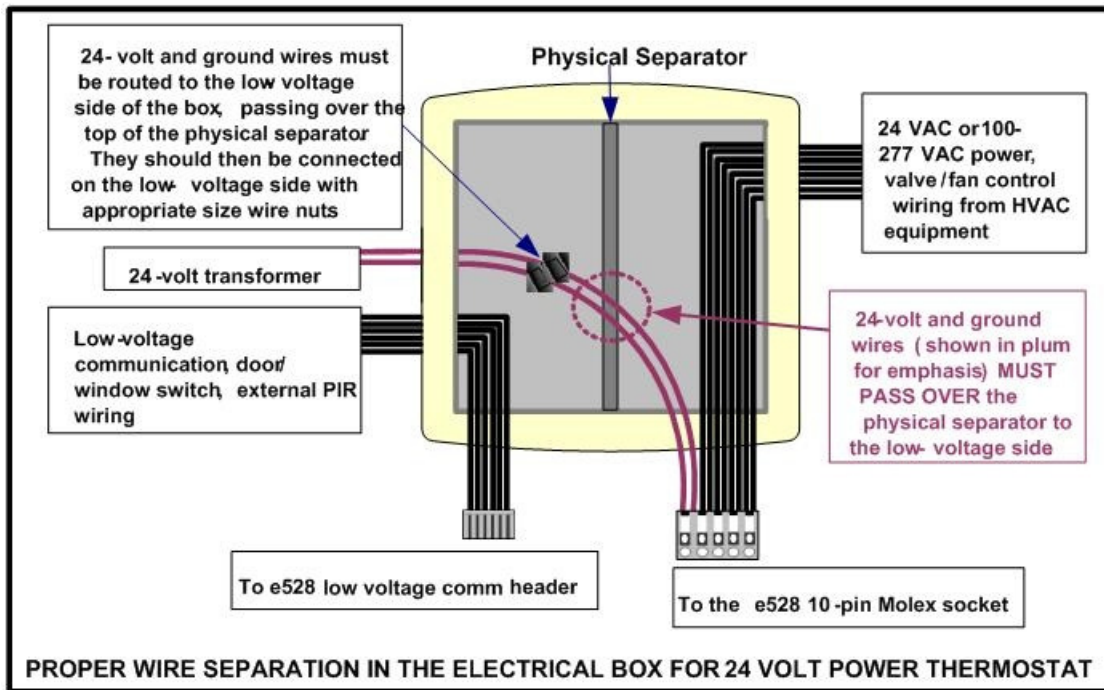

Figure 8 Electrical Box Connections 24VAC
- Using the adapter (P/N 203-013) connect the harness from the wall box (P/N 62-1462) previously connected to the thermostat being replaced to H1 of the adapter (see Figure 8).
Figure 8 e528.4G to 2G Standalone application
Figure 8 shows the pinout for the 10-position Molex male connector supplied with all relay output models of the thermostat. The end view of the male connector from the wire insertion side with the pin numbers is indicated. This is the same as looking at the female connector point on the back of the e528.
1. If applicable, use wire nuts to connect the 6-pin low-voltage harness wires to the applicable low-voltage communication (if e528 is part of a wired RS485 centrally controlled system), door/window switch, or external PIR wiring within the electrical box (Figure 8). Plug the 6-pin low voltage harness onto the e528 low voltage comm. / device connection header.